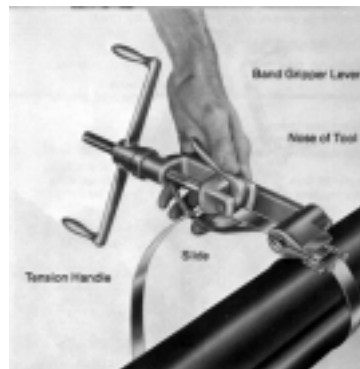

Fig. 2.11. Apply tension
- Place band in open slot of tool nose and in slide (Fig. 2.11.). With thumb on band gripper lever, apply tension by turning handle of tool. After tension is created, it is no longer necessary to hold band gripper lever as it locks itself under tension.